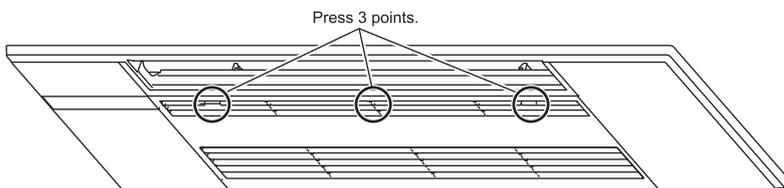

Fig. 11
14. Close the intake grille. (Fig. 11)